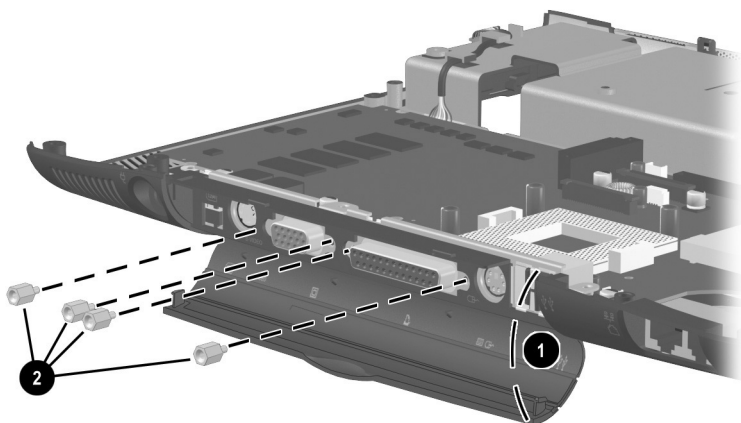

Figure 5-48. Removing the System Board Fasteners (continued)
5. Open the connector cover ❶ to reveal the rear panel connectors (Figure 5-48).
6. Remove the four silver HM5.0 × 10.5 screwlocks ❷ on each side of the parallel and serial connectors.